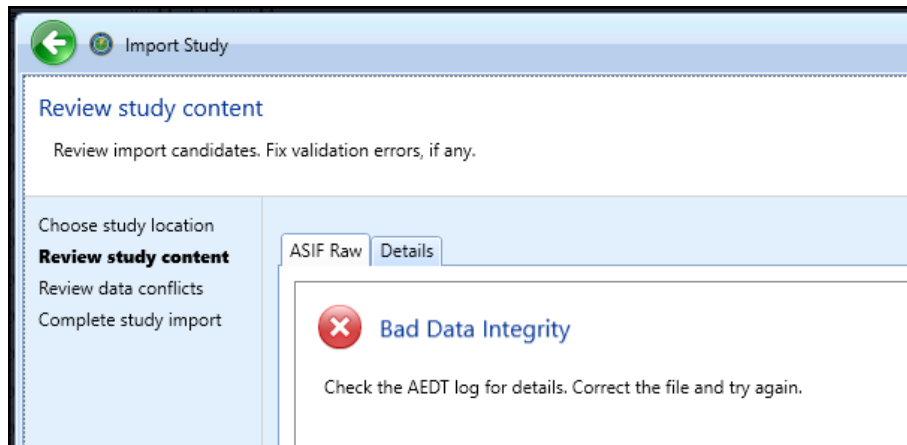

Figure 60. Review study content – Bad data integrity
4. The *Review study content* step displays validation errors if any (Figure 60).